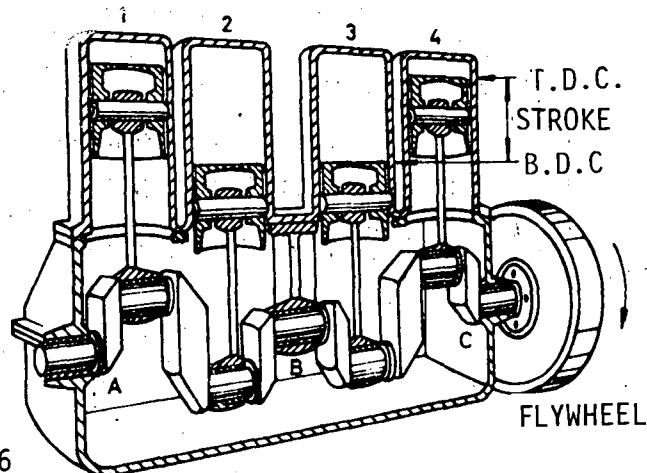

Fig. 6
- Engines in line have their cylinders arranged one behind the other (fig. 6).